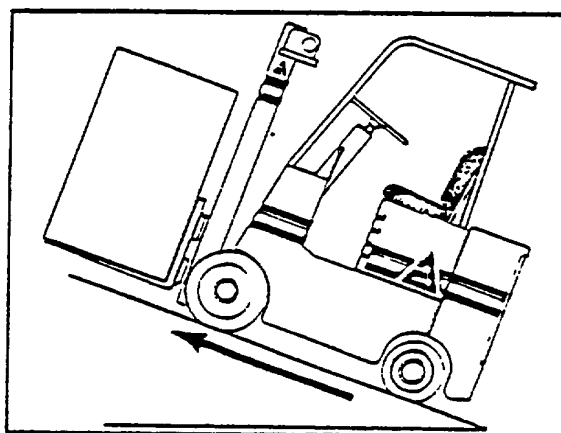

Figure 4-6. Ascending an Incline
- d. When ascending an incline, travel with load leading (Fig 4-6).